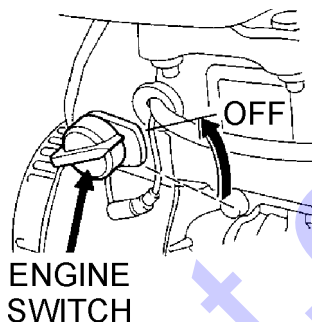

Figure 28. Engine ON/OFF Switch (OFF Position)
2. After the engine **cools**, turn the engine ON/OFF switch to the "OFF" position (Figure 28).